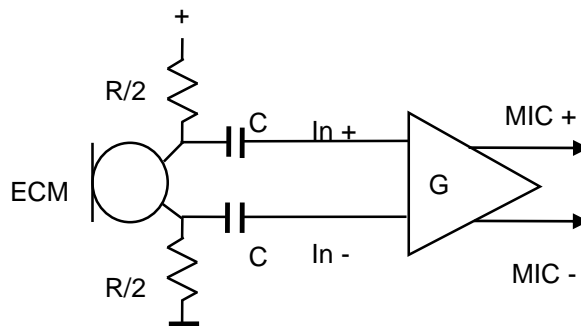

Fig. 22: Balanced Bias Circuitry
- Use, if balanced circuitry, equal load resistors for differential source on both differential tracks, refer to Fig. 22. For ECM microphone refer to chapter 15.2